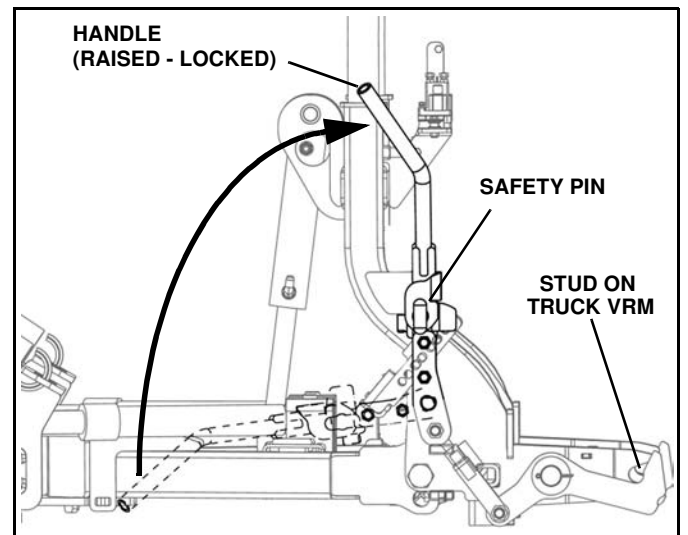

Figure 1-24
33. Pull up engagement handle to engage plow onto stud on VRM, ensuring that the safety pin is fully engaged. (See Figure 1-24).